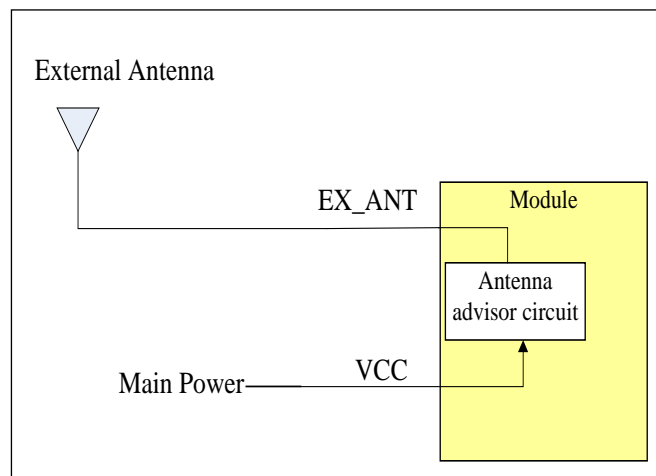

Figure Mode 3 (Built-in Antenna Supervisor)
- Mode3 (ex. **PA6H**), the power supply comes from VCC via an antenna supervise circuit to monitor the status of DC current and limit the supplied current (over current protection). Typically, the current is limited if current >30mA. The circuit also auto switch RF signal from internal Patch Antenna to External Antenna when connect an External Antenna. See Figure Mode 3.